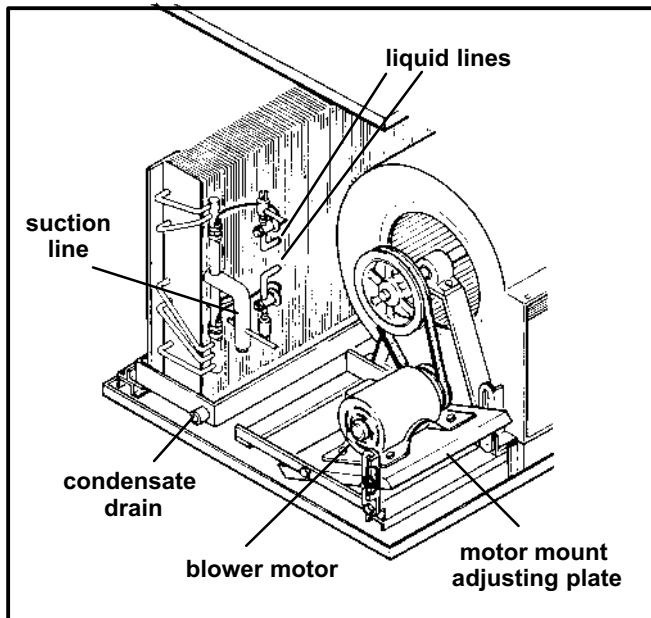

Figure 3
- 2 - Use the provided bolts and washers to install the blower motor on the motor mounting plate. See figure 3.
- 5 - Adjust the unit's air volume at the blower motor pulley. Loosen the Allen screw. Turn the adjustable sheave clockwise to increase the air volume or counterclockwise to decrease the air volume. See figure 3.